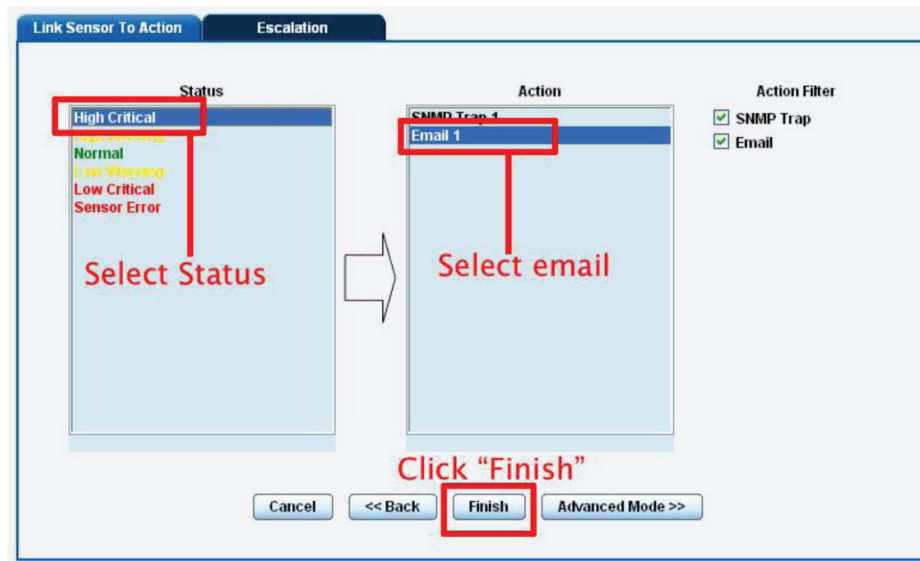

Figure 4-17. Select status and action type.
9. Select the status you want to issue the alert for and then select the action type. (See Figure 4-17.)